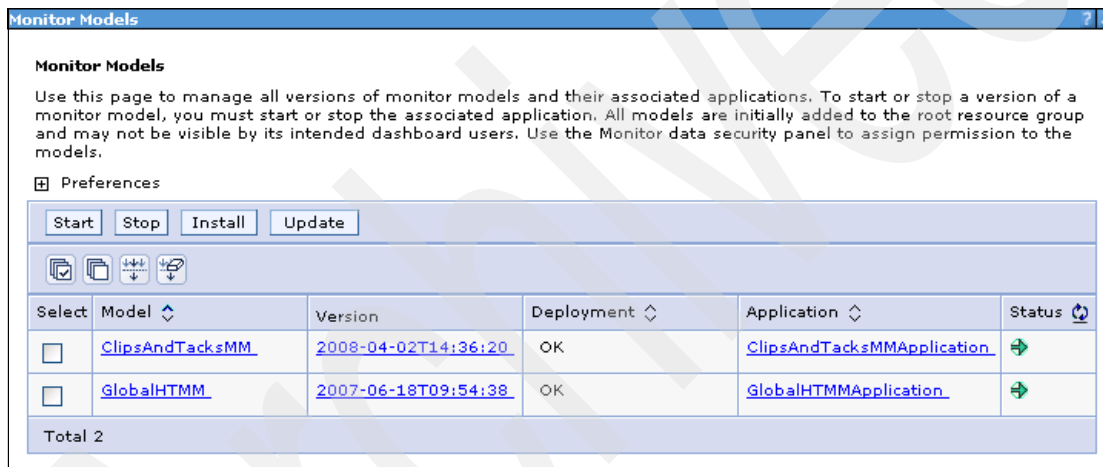

Figure A-4 Installed GlobalHTMM monitor model
- b. Check whether the list of monitor models contains **GlobalHTMM** (Figure A-4). If it contains the monitor model, follow the steps in “Connecting Business Process Choreographer with a WebSphere Business Monitor dashboard” on page 744. If the monitor model is not installed, continue with the next step.
After a successful installation, the GlobalHTMM is displayed as *Started* in the list of installed Monitor Models (Figure A-4 on page 742).